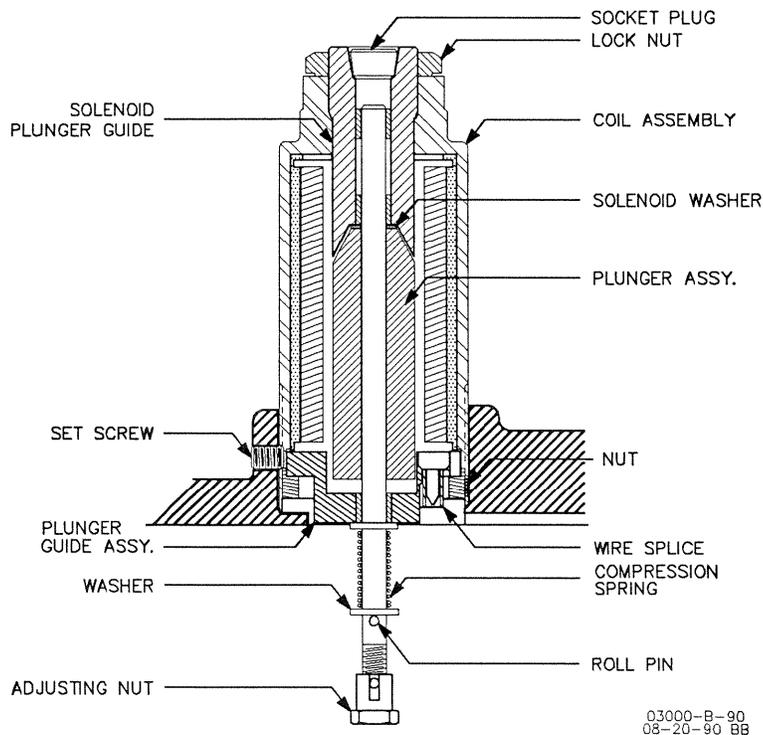

Figure 2. Vibration-Resistant De-Energize to Shut Down
1. Position the shutdown rod assembly in the solenoid plunger with the end of the plunger friction screw 3 mm (1/8 inch) inside the plunger nose as shown in Figure 2. This adjustment is necessary only when the shutdown device has been disassembled for cleaning or replacing parts. New assemblies from the factory will have this adjustment completed.